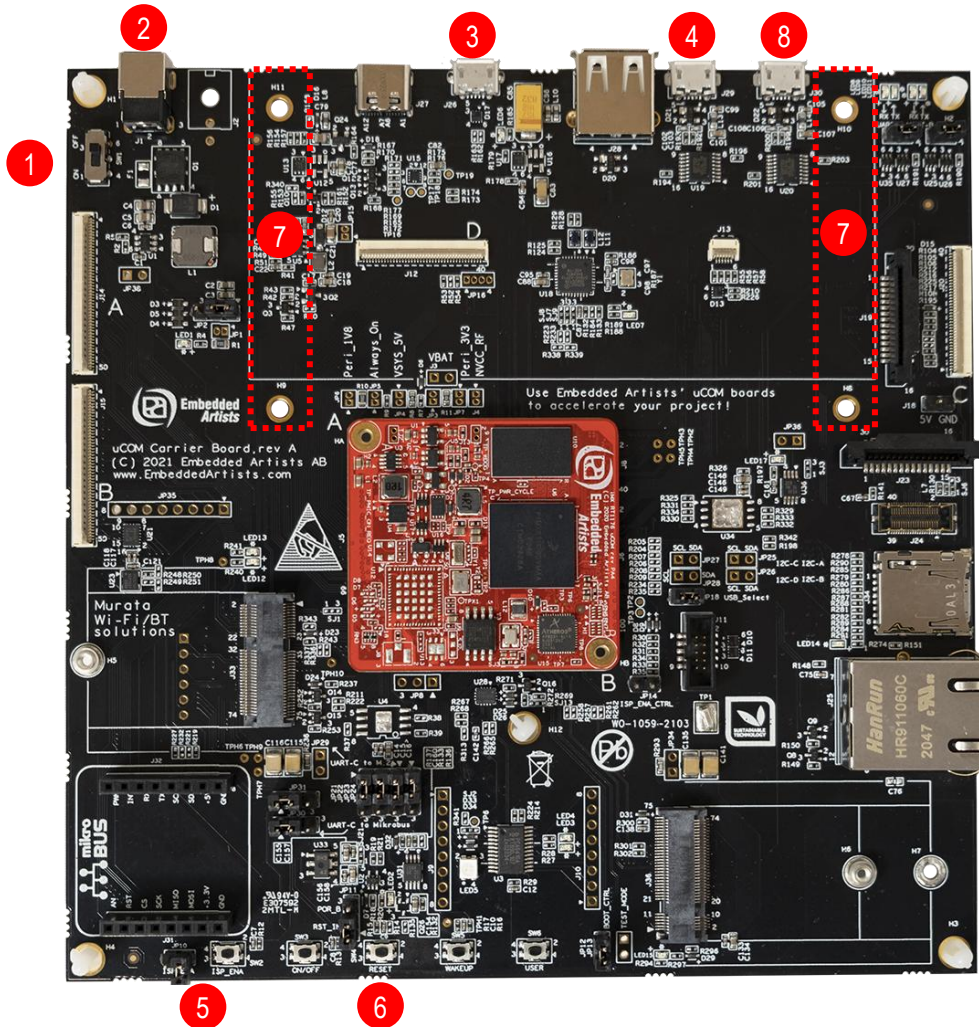

Figure 1 – iMX RT1166 Developer's Kit
- One *iMX RT1166 uCOM* board mounted on one *uCOM Carrier board*, see Figure 1 below.
Figure 1 below illustrates the top side of the *uCOM Carrier board*. Some key components, relevant to get started, have been marked in the picture.
Begin by connecting the micro-B USB connector to position 1) in Figure 1 above. Connect the other end of the USB cable to the PC.